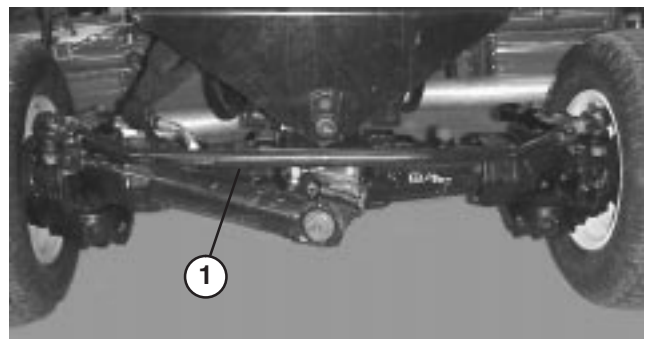

Figure 72
3. Loosen clamps on both ends of tie rod (Fig. 72).